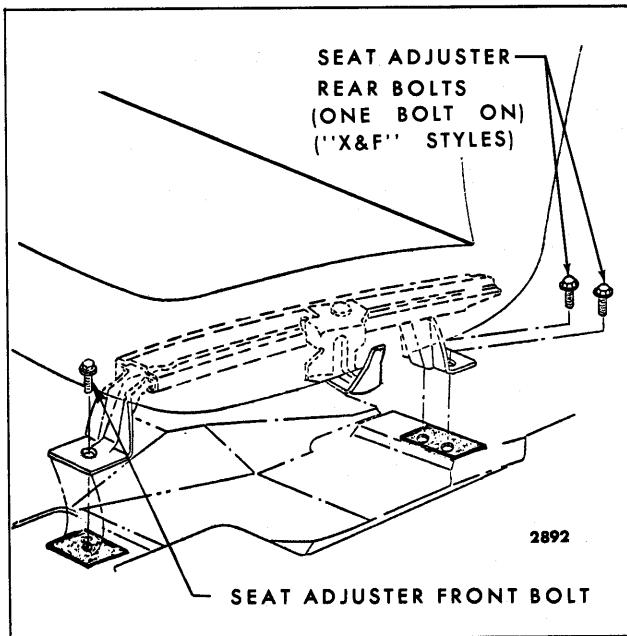
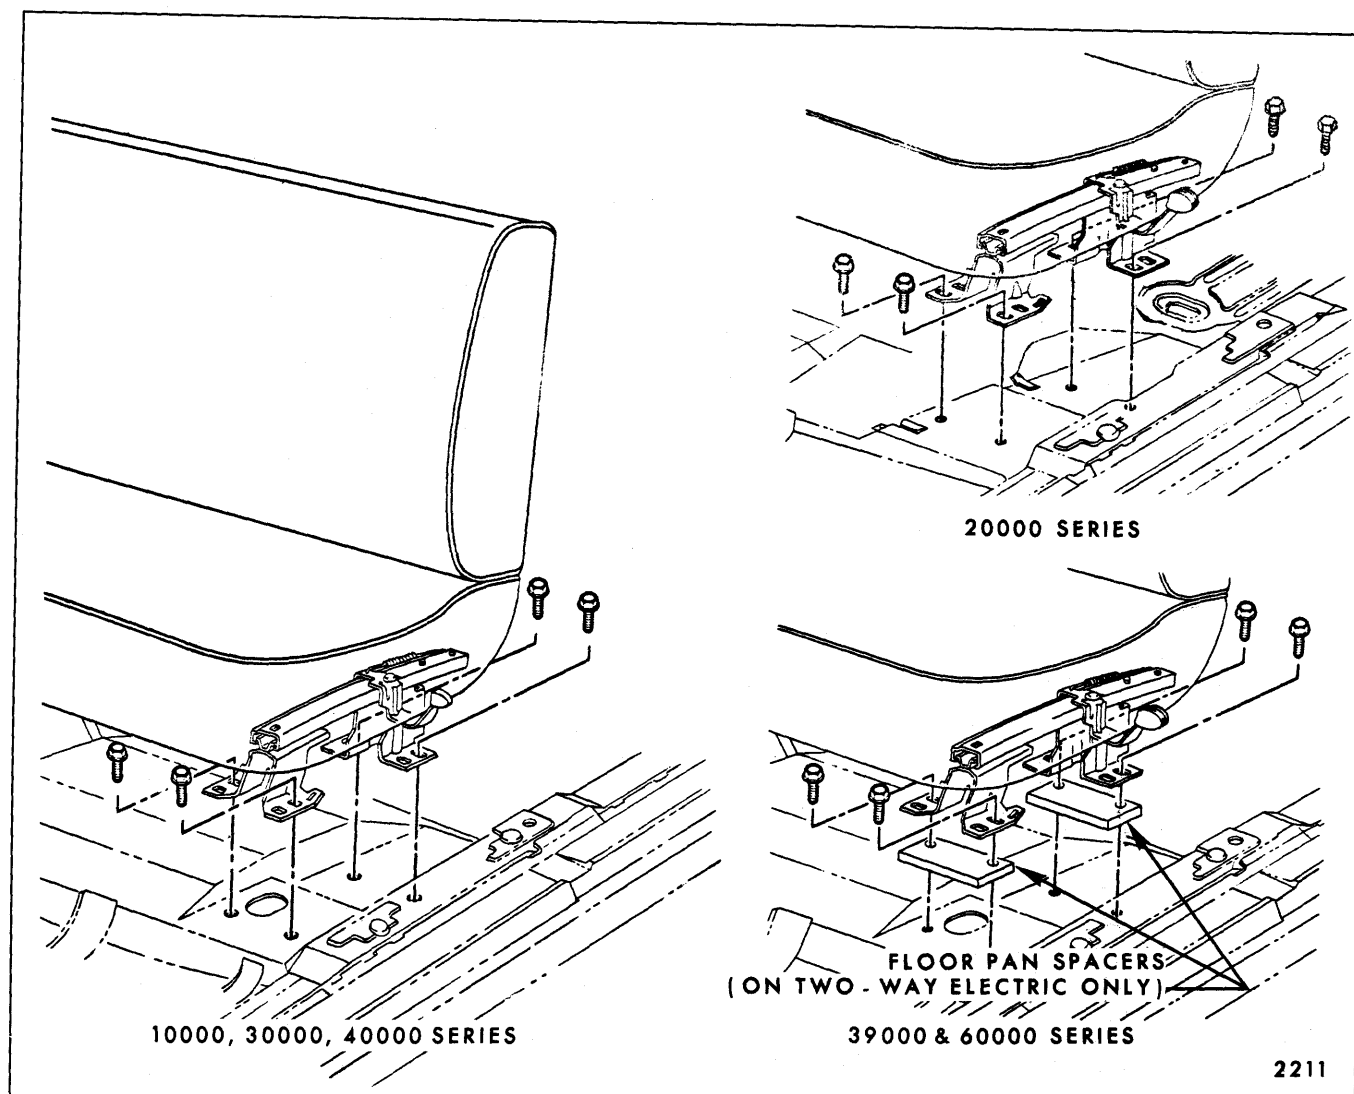

Fig. 15-3—Seat Adjuster Floor Pan Attachment -
Fig. 15-4—Seat Adjuster Floor Pan Attachment - "B, C & E" Full Width Seat
The full width manually operated seat assembly incorporates manually operated seat adjusters to provide fore and aft movement of the seat. When the lever at the left seat adjuster is moved forward (rearward on "F" Body Styles), the seat adjusters unlock, permitting horizontal travel of the seat. When the seat is in the desired position and the locking lever is released the seat is locked. All seat adjusters are secured to the floor pan by nuts installed on floor pan anchor plate studs or bolts installed into anchor nuts in the floor pan (See Figs. 15-3 and 15-4).
4. At rear of adjusters, remove adjuster-to-floor pan rear attaching nuts or bolts (Fig. 15-3 and Fig. 15-4).
4. Remove seat adjuster-to-floor pan rear attaching bolts (Figs. 15-3 and 15-4).
5. Operate seat to full rearward position. Remove adjuster-to-floor pan front attaching bolts (Fig. 15-4). Tilt seat assembly rearward sufficiently to disconnect seat harness feed connector and detach harness from clip on floor pan. On styles with seat back cigar lighter, seat back courtesy lamps or seat back vanity lamp, disconnect electrical feed wire or wires. With aid of a helper remove seat assembly from body.